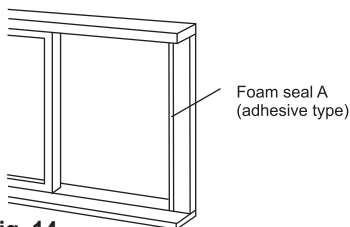

Fig. 14
1. Cut the foam seal (adhesive type) to the proper length and attach it to the window sill. See Fig. 14.